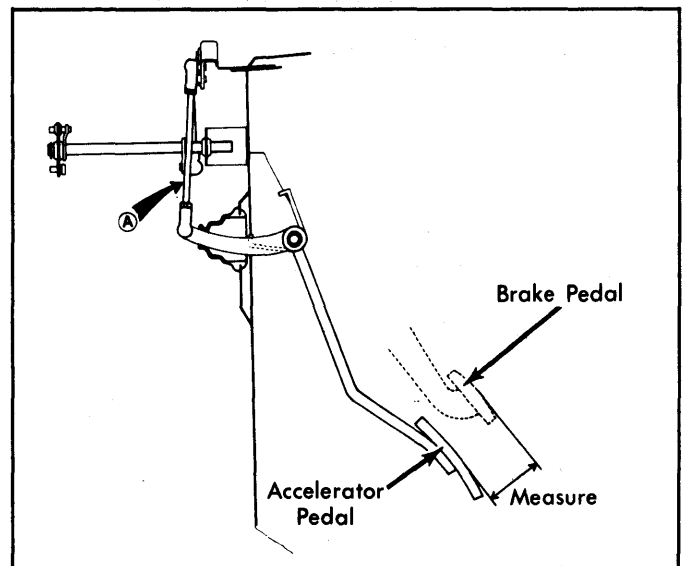

Fig. 8: Accelerator Pedal Height Adjustment
1) Loosen lock nuts on linkage rod "A". See Fig. 8. Rotate rods in sockets until proper accelerator travel from idle to wide open throttle is obtained. Tighten lock nuts.